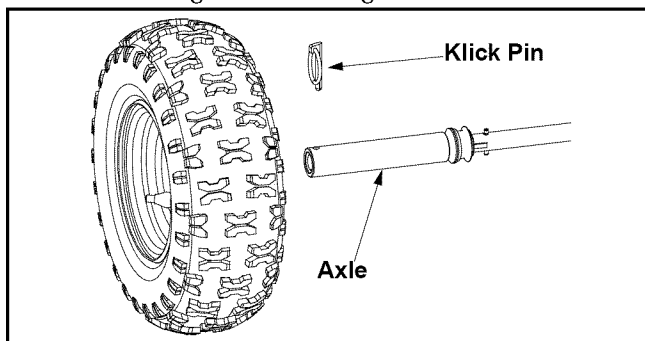

Figure 12
- Oil or spray lubricant into bearings at wheels at least once a season. Pull click pin, remove wheels, clean and coat axles with a multipurpose automotive grease. See Figure 12.